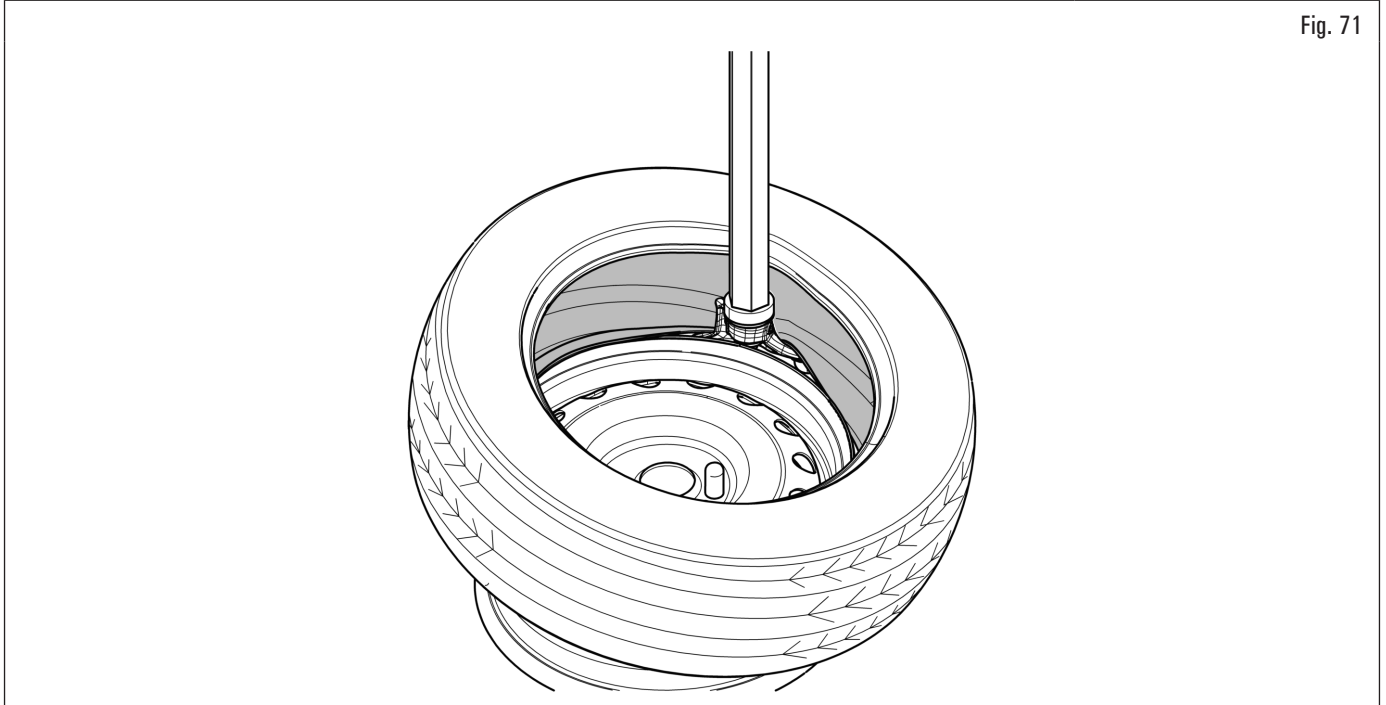

Fig. 71
3. place the tyre on the rim, press the release button (2nd tripping) of the tool holder arm (see Fig. 12) and manually position the toolhead on the rim (Fig. 71). Lock the tool holder arm by pressing (1st tripping) the relative button (see Fig. 12). Insert the tyre in the mounting position on the toolhead and press the rotation pedal until the first bead is inserted;